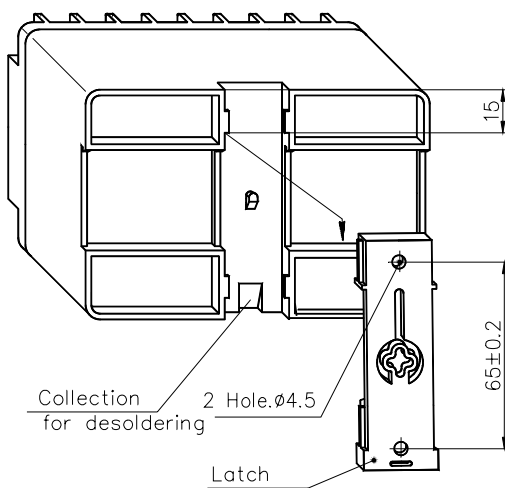

Figure B.2 Mounting on the Panel
- fix a latch on the panel with the help of two screws according to figure B.2;